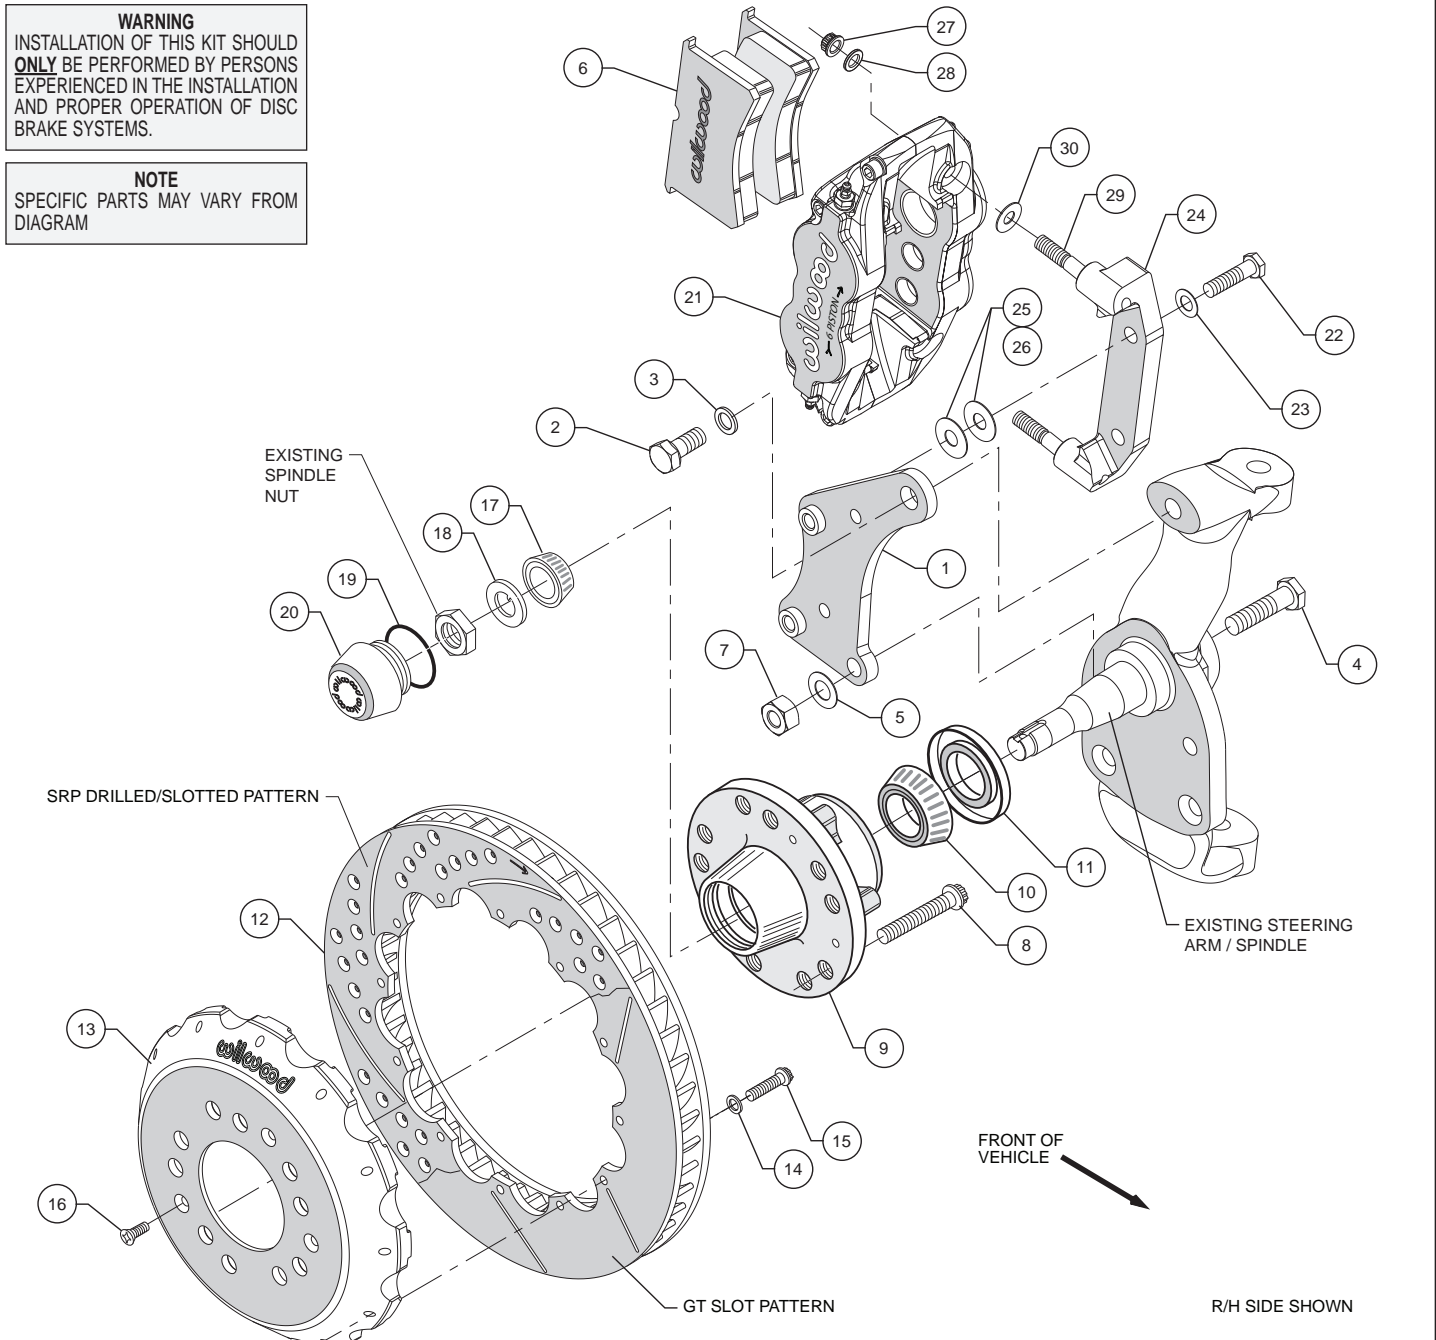

Figure 1. Typical Installation Configuration
- Mount the radial mount caliper bracket (24) to the first “flat” caliper mounting bracket (1) from the far side by sliding bolt (22) through washer (23). Place two .030 thick flat washers (26) between the two brackets (1 and 24) before sliding the mounting bolts (22) all the way into the first caliper mounting bracket (1). Finger tight only.
- NOTE:** This kit contains distinct right and left hand calipers that must be mounted in a specific direction, as described below. Lubricate caliper mounting studs (29) and nuts (27) with lightweight oil. Install one shim (30) over each stud (29) on the radial mount bracket (24). Slide the caliper (21) in place over the studs and rotors and install the washer (28) and lock nut (27) to hold the caliper in place, Figure 1. Ensure that the caliper is mounted so that the largest pistons are at the rotor exit end of the caliper, in relation to the direction of rotor rotation. Snug the lock nuts (27) and check that the rotor (12) is centered in the caliper (21). Add or subtract .030” shims (26), or add additional .015” shims (25), as necessary between the radial mount bracket (24) and the flat bracket (1) to center the caliper. Finger tighten and recheck alignment. Use as many shim washers (combination of 25 and 26) as necessary to achieve the correct alignment. Apply red *Loctite*® 271 to bolt threads (22) and torque to 42 ft-lb.